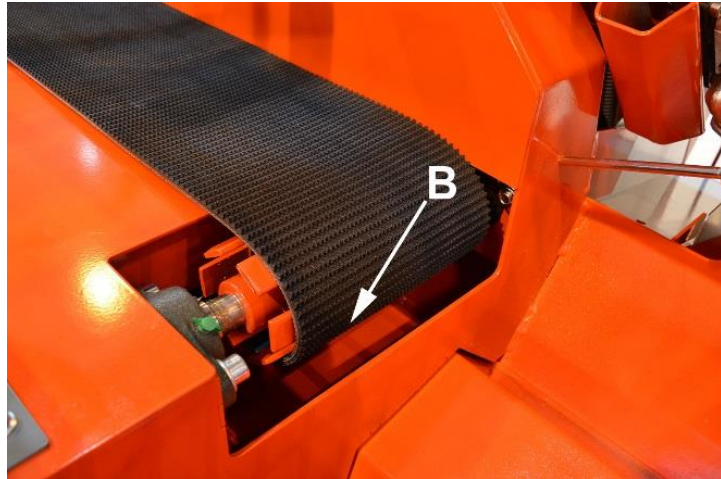

Figure 32.
6. Insert the new belt from the side of the in-feed conveyor's drive roller through opening B (Figure 32), until you can pull the belt out from other end C (Figure 33). Note! If necessary, remove the guard of the in-feed conveyor in accordance with the instructions in Section 4.5.